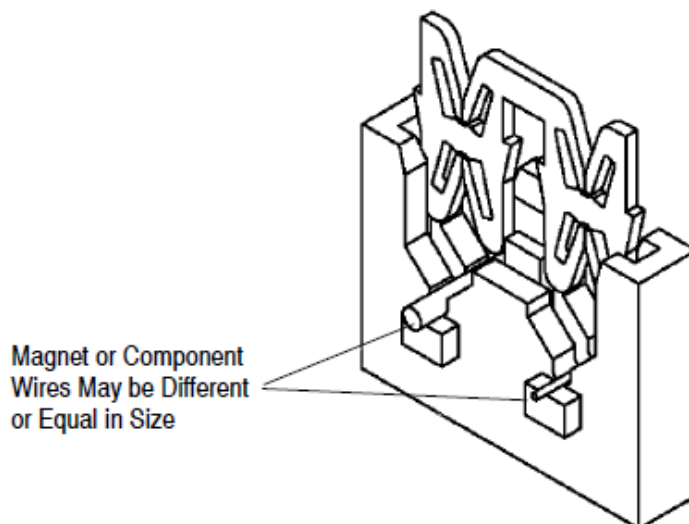

Figure 2
3.5. Bussed (Commoned) Terminals (Figure 2)